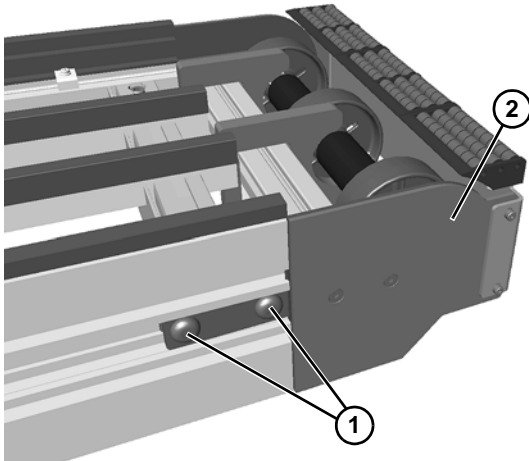

Figure 87
2. Loosen two socket head screws (**Figure 87, item 1**) on each side of idler roller transfer tail assembly (**Figure 87, item 2**).